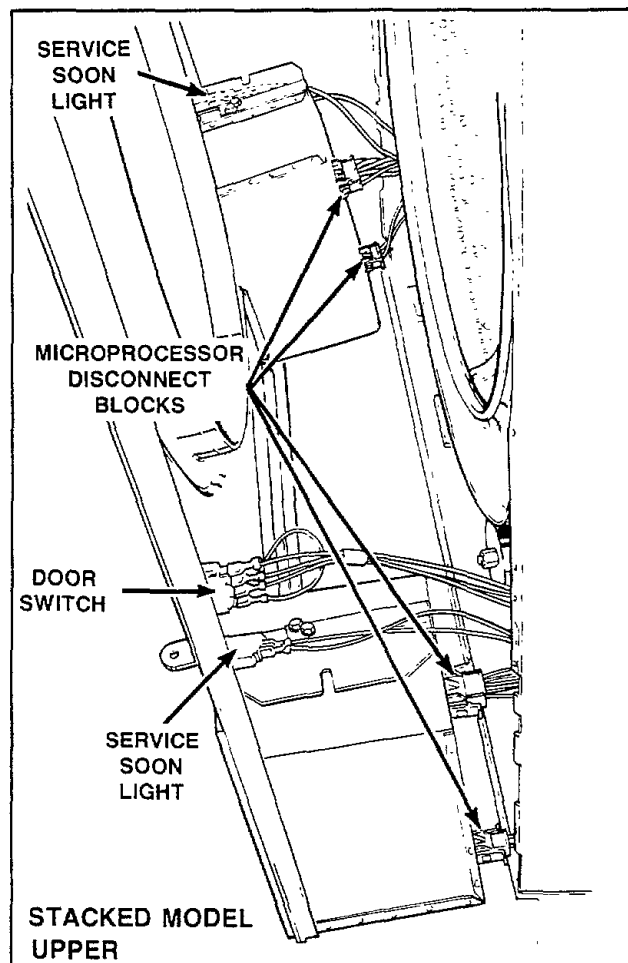

Figure 5
- e. While supporting front panel, tip the top forward slightly and lift up and out far enough to disconnect door switch wires, Figure 5.
#### Stacked Model – Upper (Figure 5)